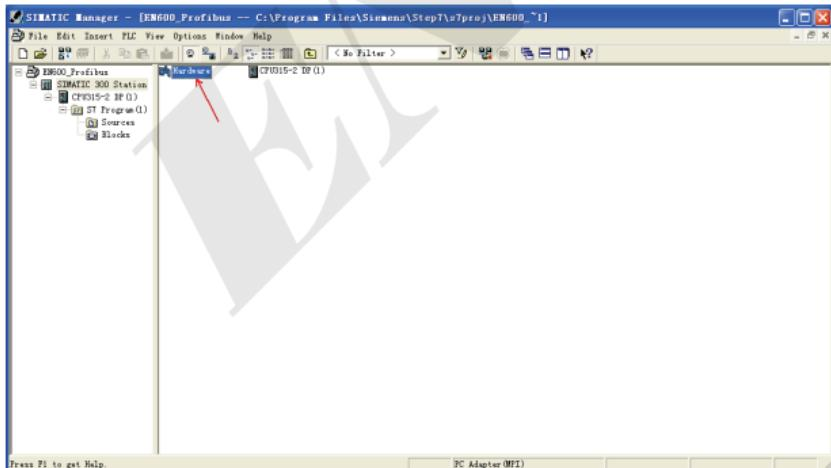

Fig 3-6
(1) Establish a project on STEP7, add the master station of S7-300, as shown in Fig.3-6.